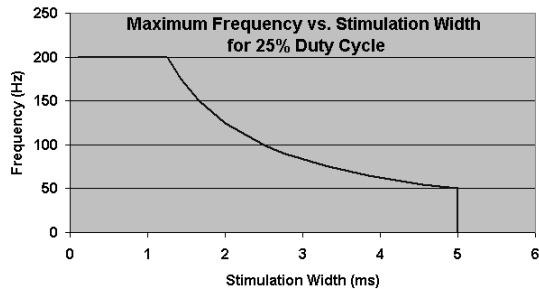

Figure 45 Maximum Frequency vs. Stimulation Width Graph
- The stimulation type of energy is biphasic square pulses. The width values shown are for each phase (see figures 45 and 46).